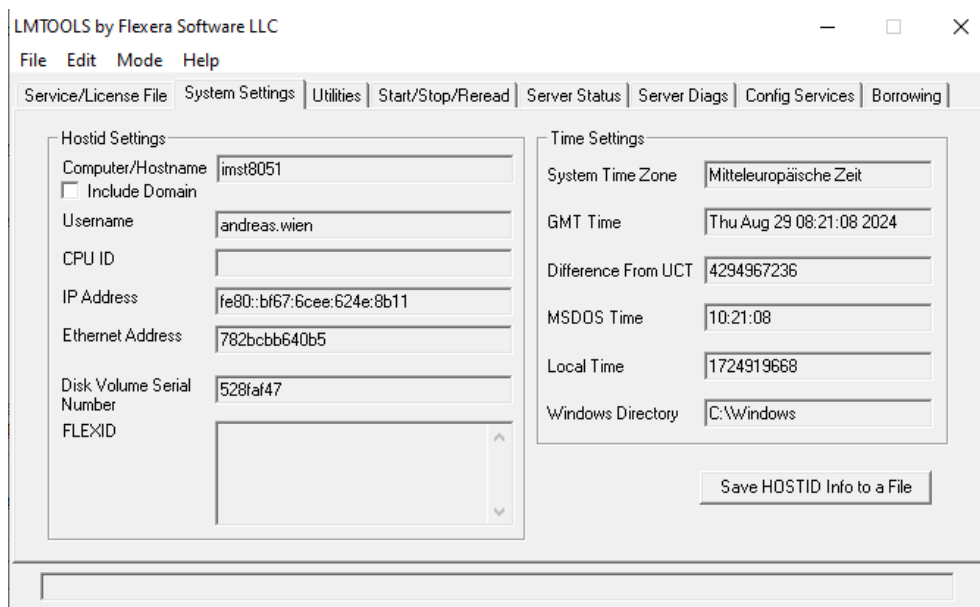

Figure 2.1.: License Management Tool
- **License Management Tool** Starting `lmttools.exe` in `C:\EMPIRE_XPU_9.x.x\empire\flexlm\winnt` switch to **System Settings** Tab, see Fig.2.1